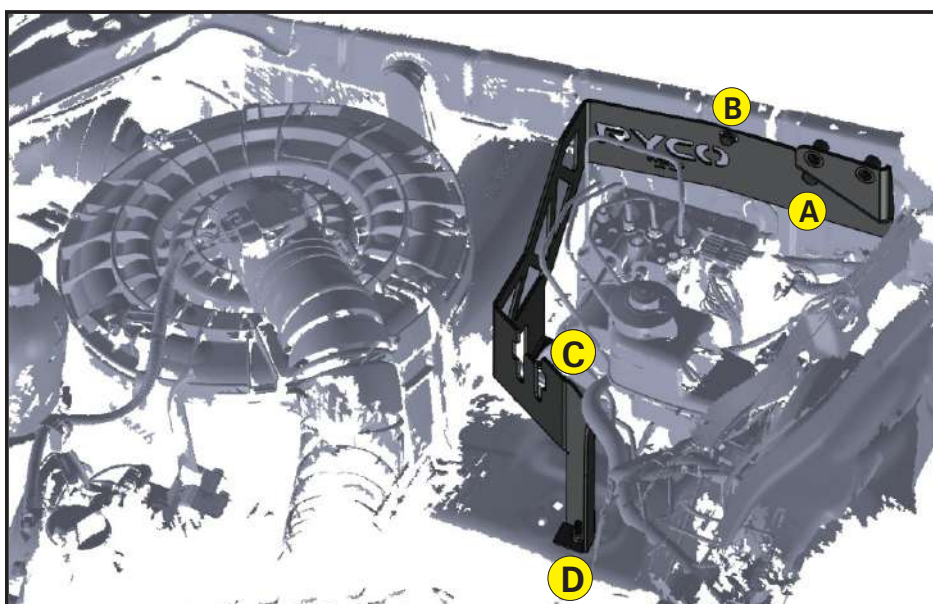

FIG. 1 BRACKET IN ENGINE BAY
1. In Fig. 2, locate the factory nut and washer that mounts the factory ABS module (Note: Only remove the one closer to the engine as highlighted), between the air box and brake fluid reservoir. Position the bracket in the engine bay as per Fig. 1, engaging Point **C** on the bracket onto the stud and loosely refit the factory nut and washer back onto the stud.